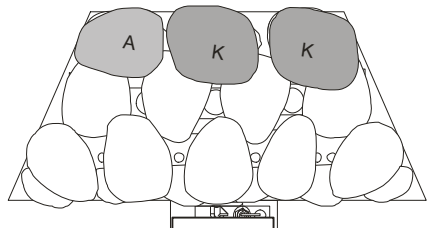
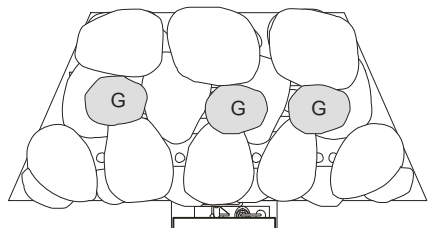

Figure 29
Figure 30
4. Place pebbles **A, G & K** in **Figure 29** and **Figure 30** to complete the fuel effect layout.